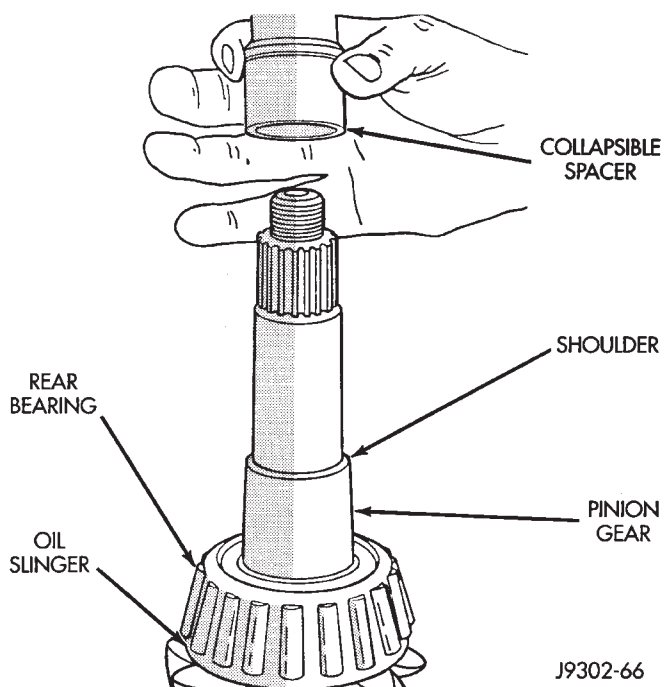

Fig. 30 Collapsible Spacer
(12) Remove the collapsible preload spacer (Fig. 30).